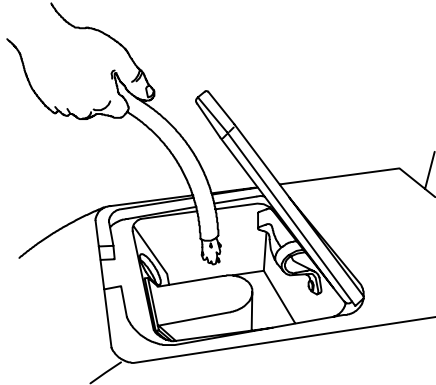

FIG. 20
4. ES Mode Option: Open the recovery tank cover and fill the recovery tank with no more than 23L (6 gal) of water (Figure 20).